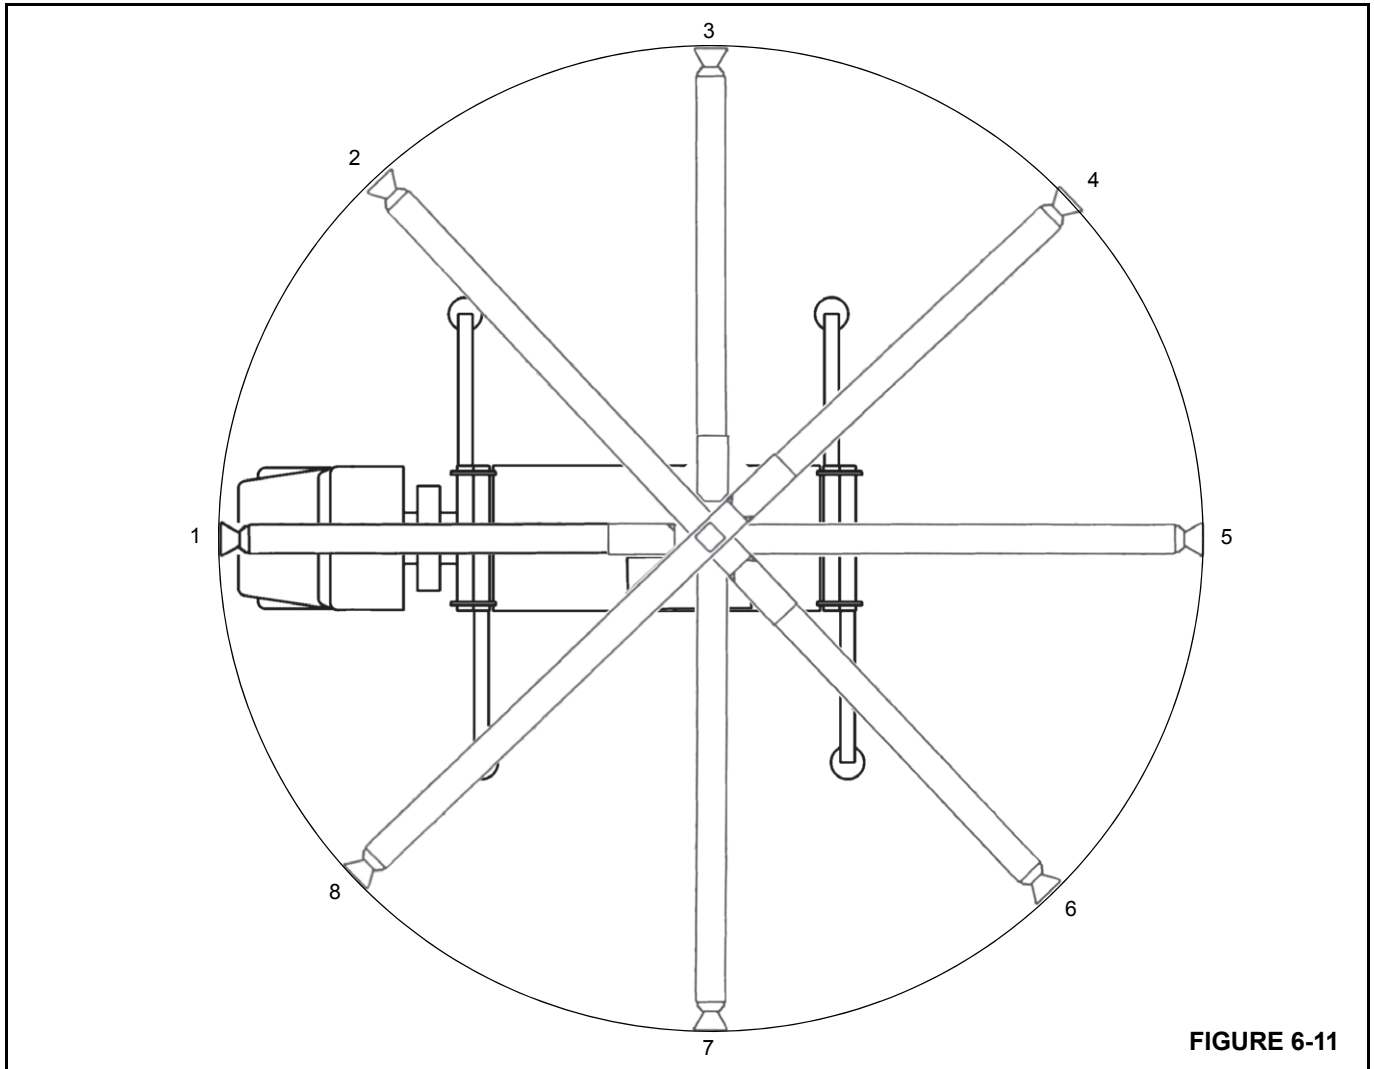

FIGURE 6-11
10. If the average is less than 2.2 mm (0.090 in), repeat the measurement at every 45° around the total working area of the crane (Figure 6-11).